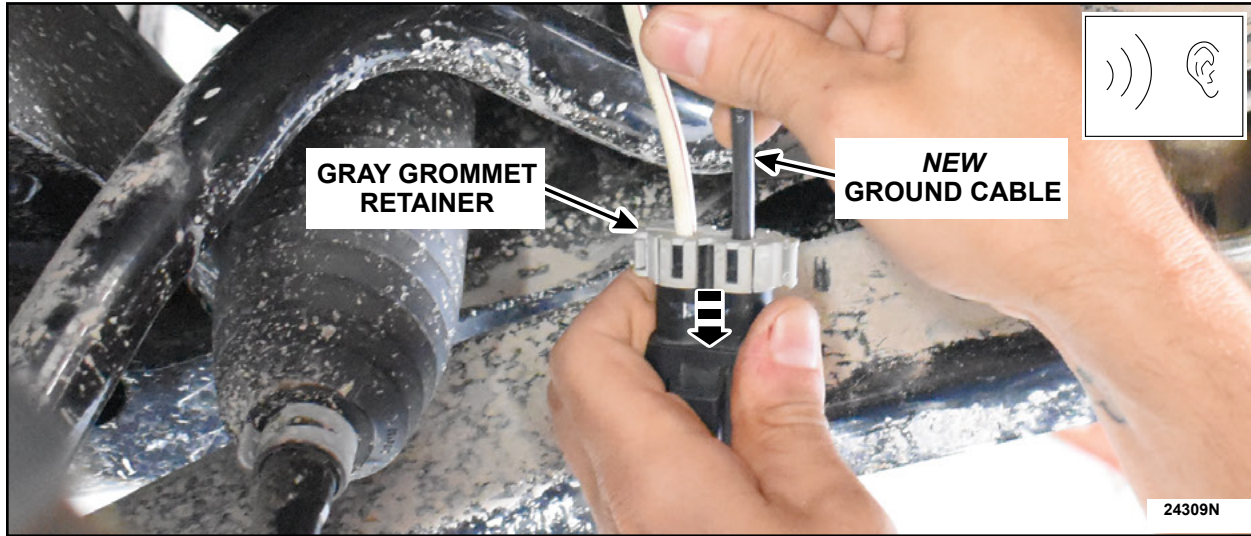

FIGURE 12
15. Reinstall the gray grommet retainer. See Figure 12.